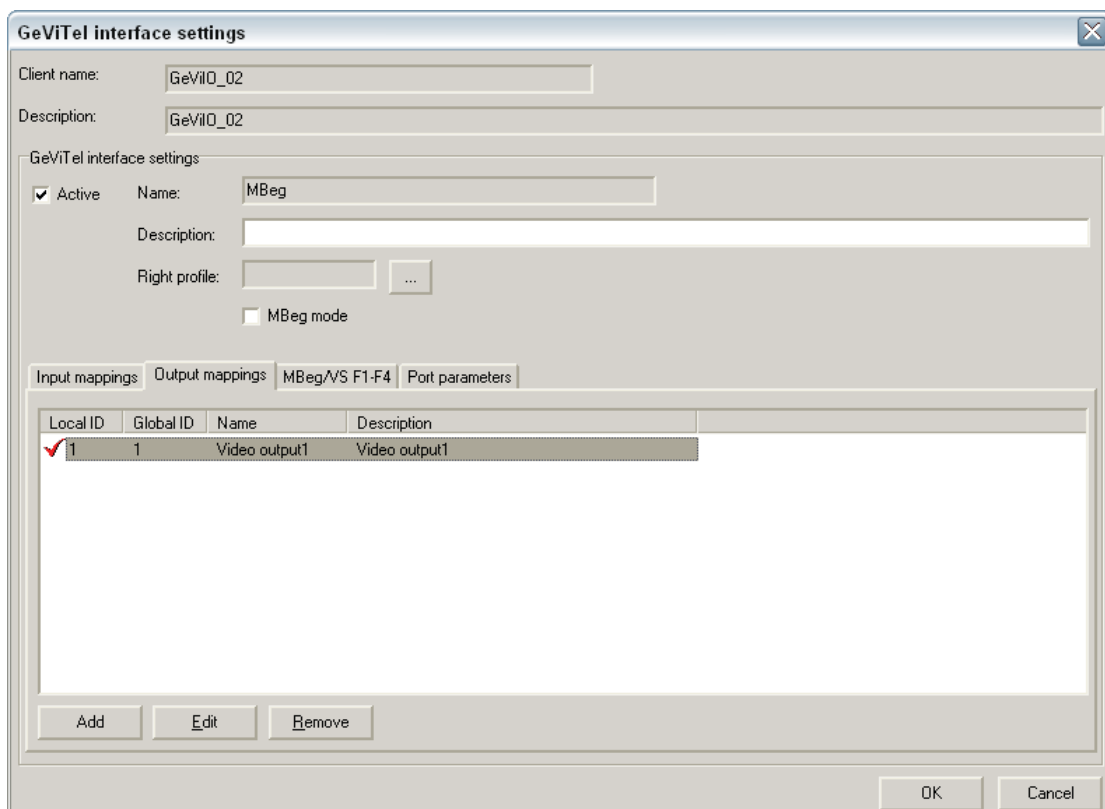

Figure 8-11: Interface output mappings
- Moreover, the MBeg interface must have at least one video output entered. This procedure occurs in the field "Output mappings" (figure 8-11).